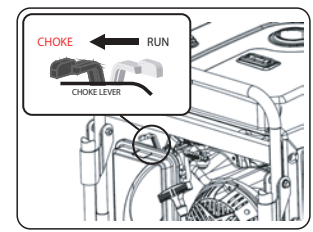

Fig 11
- Slide the choke lever to the “CHOKE” position. (See fig 11) **SKIP THIS IF THE ENGINE IS WARM OR HOT.**